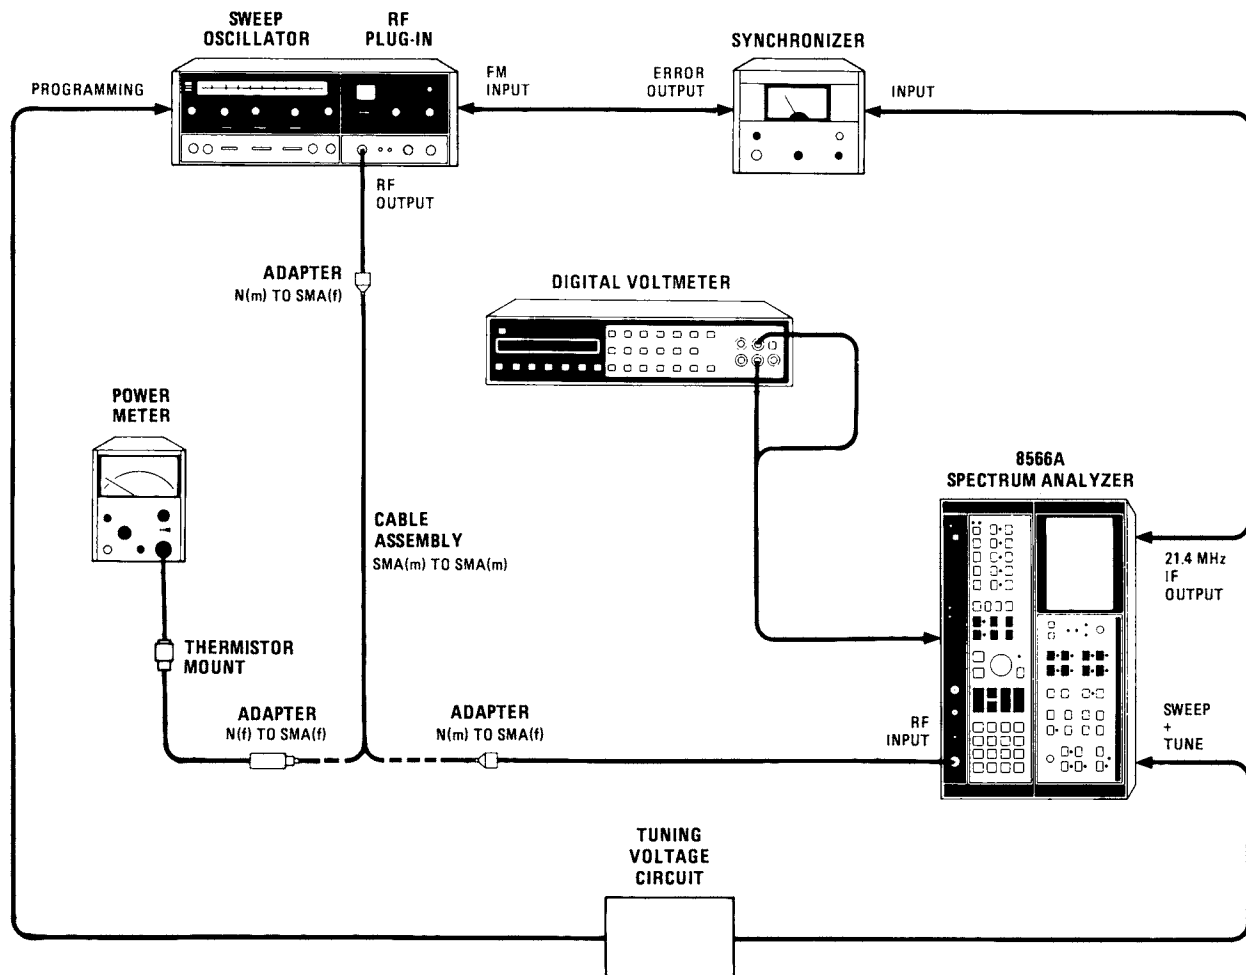

Figure 5-65. Frequency Response Preliminary Adjustments Setup
1. Position instrument on right side as shown in Figure 5-65 with bottom cover removed.
5. Disconnect power meter/thermistor mount from CAL OUTPUT and connect equipment as shown in Figure 5-65 with power meter/mount connected to sweep oscillator.